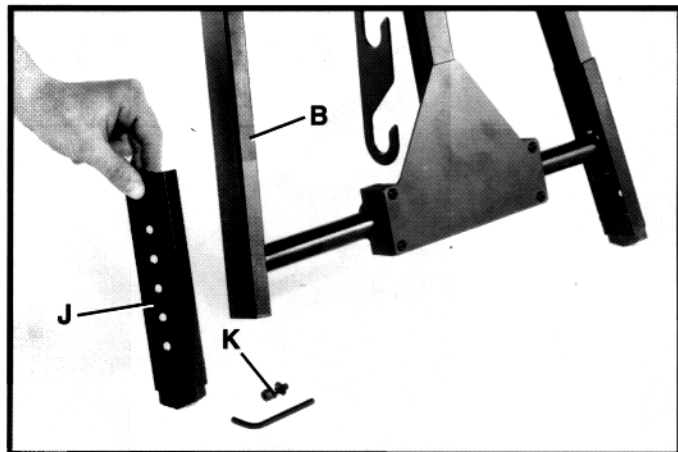
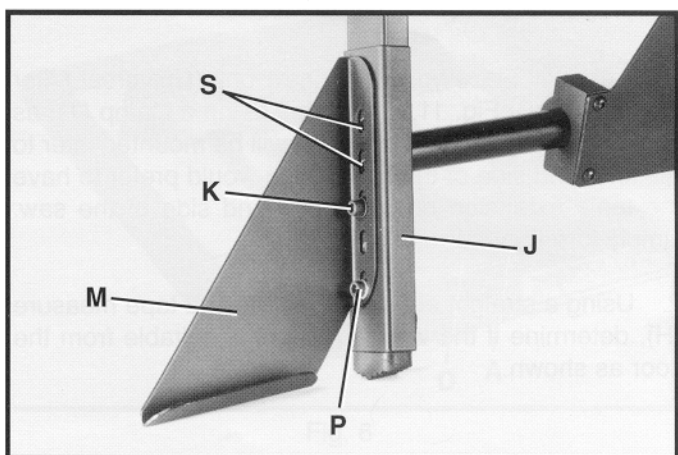

Fig. 12
Fig. 15
4. Remove screw (K) Fig. 12, which secures one rear leg extension (J) onto stand (B) as shown.
8. If a higher working height is desired, leg extensions (J) Fig. 12, can be adjusted to raise the working height a maximum of 3 inches in 1 inch increments. To increase the working height, reposition screw (K) Fig. 15, to the holes shown or through one of the holes marked (S).
9. Push down on stabilizer (M) Fig. 15, and tighten screws (K) and (P).
10. Fig. 15, illustrates stabilizer (M) properly assembled to saw stand, and leg extension (J) adjusted to raise the working height of the stand 1".